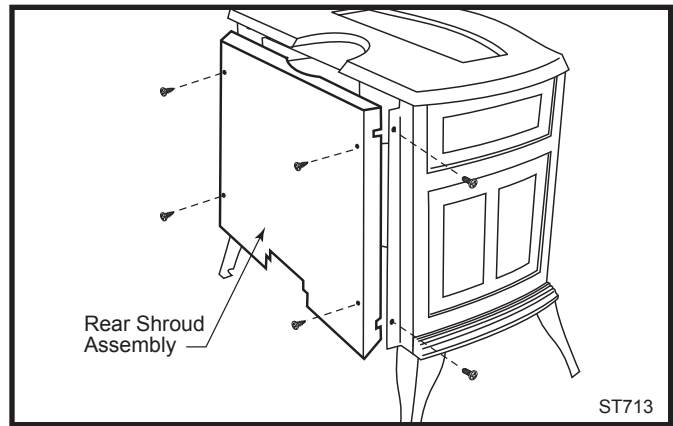

Fig. 15 Remove rear shroud.
2. Loosen the four phillips head screws which secure the rear shroud to the stove sides. (Fig. 15)